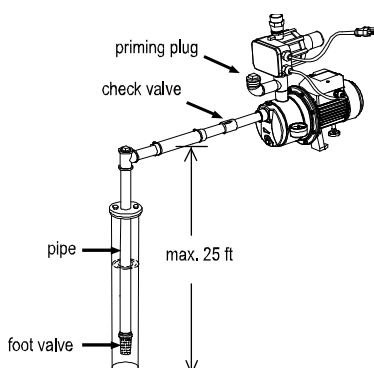

Figure 1
NOTE: The priming plug has an O-ring already installed and does not require PTFE tape. (Figure 1)
1. Connect the suction pipe to the pump inlet.(Figure 1)